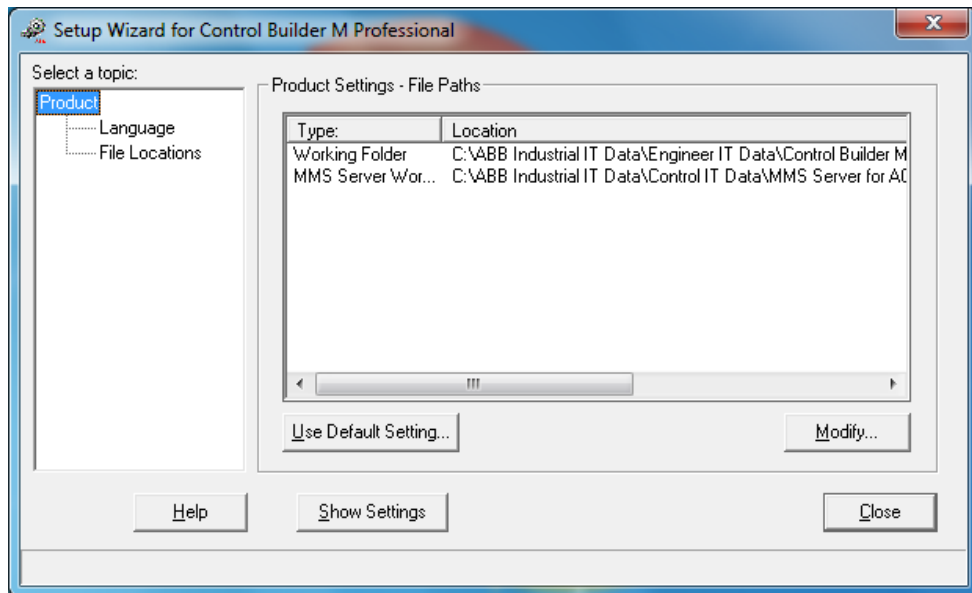

Figure 17. Control Builder M Setup Wizard
1. Run the Setup Wizard (Figure 17) on the Engineering Station and other nodes where the Control Builder M is installed. Select: